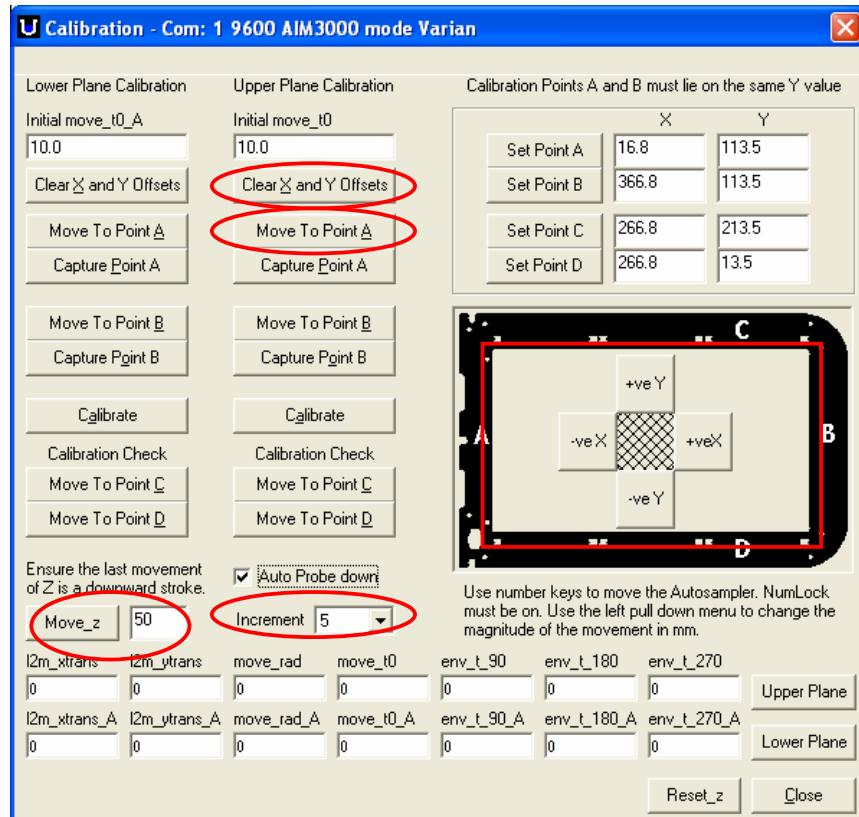

Figure 9: Clearing the Upper Level Calibration Coefficients
1. Clear the upper plane calibration X and Y offset (*Clear X and Y Offset*) Figure 9.
3. Select the *Move To Point A* button (Figure 9), and then using the X & Y movement buttons (Figure 9) align the probe so that it rests right above the point A dimple (Figure 12) in the tool. Do not forget to adjust the *Move_z* (Figure 9) depth adjustment to avoid running the probe into the alignment jig. Remember that fine adjustment of the probe can be made by changing the *Increment* pull down menu (Figure 9)